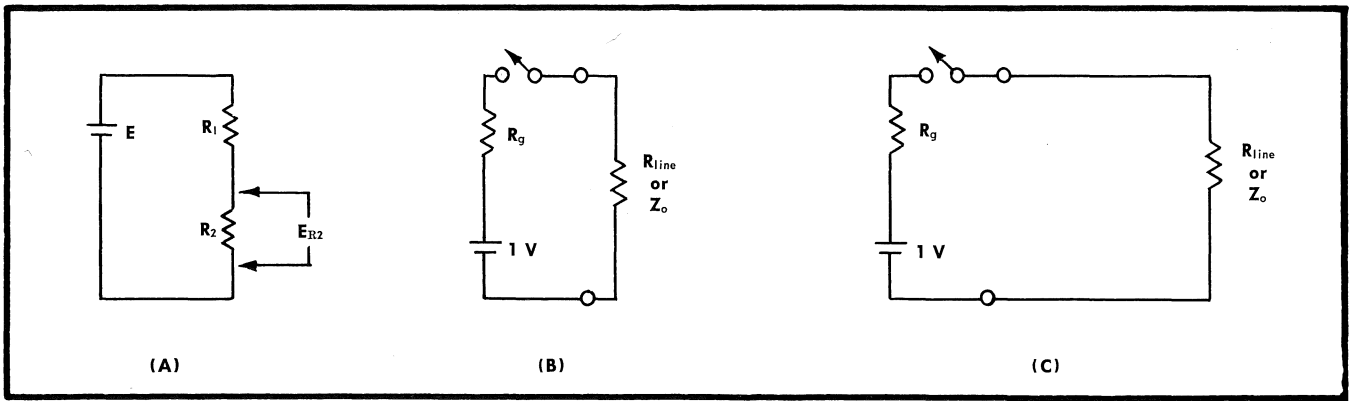
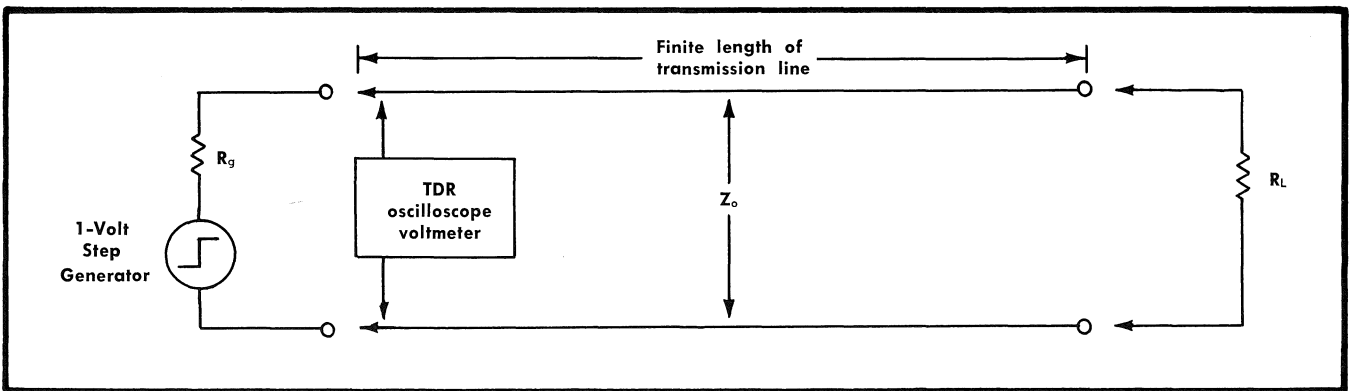
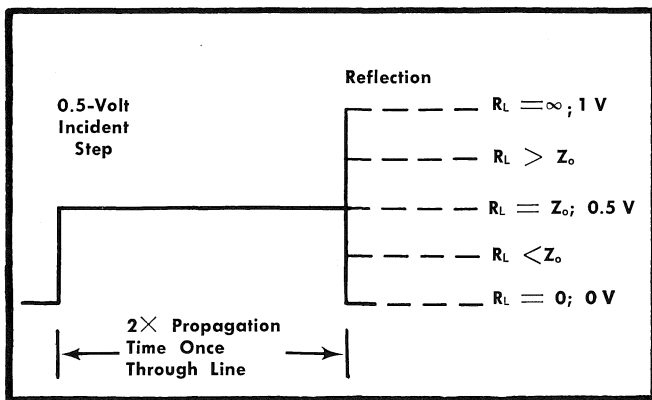

Fig. 2-6. Circuits showing DC analogy of TDR.
Fig. 2-7. Adding the time dimension to the circuit of Fig. 2-6.
Fig. 2-8. Oscilloscope voltmeter displays for circuit of Fig. 2-7, dependent upon value of R_L vs Z_o .
Fig. 2-6 shows three simple circuits that can be related to transmission lines and TDR. Fig. 2-6A is the diagram of an ordinary resistance voltage divider, where the voltage across
Fig. 2-7 substitutes a step generator for the battery and switch of Fig. 2-6. The generator has zero source resistance so R_g is again added in series with the generator. The generator and R_g drive a finite length transmission line that has a characteristic impedance of Z_o . The transmission line has output terminals that permit connecting a load R_L . An oscilloscope voltmeter measures the voltage signal(s) at the input end of the transmission line.
Assume that no load resistance is connected to the transmission line output terminals ($R_L = \infty$) and that $R_g = Z_o$ (Z_o acts exactly as if it were the DC resistor R_{line} of Fig. 2-6). As the zero impedance step generator applies its 1-volt step signal to R_g , the oscilloscope voltmeter indicates 0.5 volt. The oscilloscope voltmeter will continue to indicate a 0.5 volt signal until the wave has traveled down the line to the open end, doubled in amplitude due to no current into $R_L = \infty$, and reflected back to the generator end of the line. The oscilloscope finally indicates a signal of 1 volt after the measurable period of time required for the step signal to travel down and back the finite length of open ended transmission line.
Fig. 2-8 shows TDR oscilloscope (voltmeter) displays related to the value of R_L vs the value of the transmission line Z_o . Apply resistance values of 50 Ω to R_g and Z_o , and 75 Ω to R_L of Fig. 2-7. By formula (1), the oscilloscope display of the reflection amplitude will be 0.6 volt. The actual reflection, however, is only 0.1 volt added to the 0.5-volt incident step.